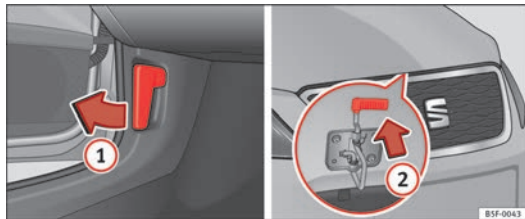

Fig. 107 Release lever in driver footwell and cam below the bonnet
- Pull the lever under the dash panel in the direction of the arrow (1) ⇒ Fig. 107.
- Press the release catch under the bonnet upwards ⇒ Fig. 107 (2). This will release the arrester hook under the bonnet.